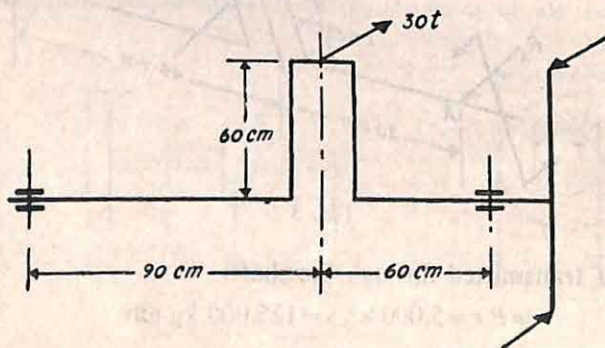

Fig. 4
15. The crank-shaft of a single cylinder engine is shown in Fig. 4. When the crank and connecting rod are at right angles the effective force in the rod is 30 tonnes. The work is entirely taken off at the right-hand end of the shaft, and the bearings may be assumed to exercise no restraint on the shaft. Calculate the bending and twisting moments on the crank-pin, and find the maximum direct stress induced, the pin being 30 cm internal and 52 cm external diameter.